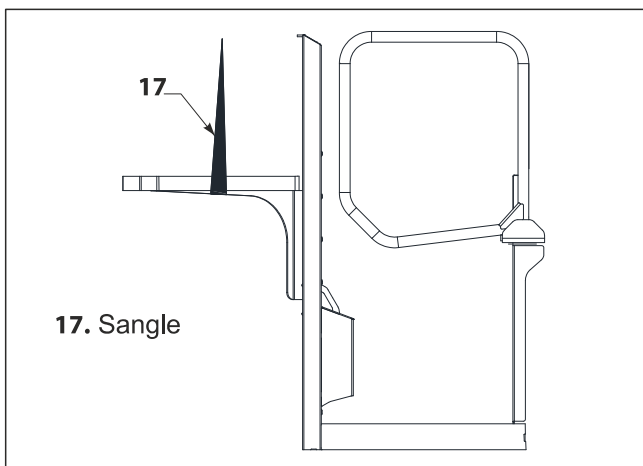

Figure 6-12. Securing Manual Tray
5. Secure the manual tray by using a crane, see Fig. 6-12.